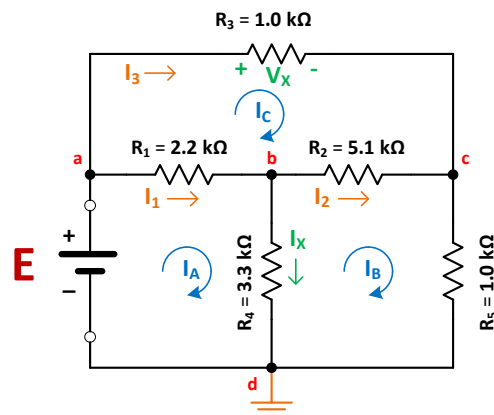

Figure 3.0b: Circuit for *Mesh* Analysis
- (ii) **Mesh Analysis:** Using the *mesh analysis* technique on the circuit shown in **Figure 3.0b**, calculate the mesh currents I_A , I_B and I_C ; and determine the branch currents, I_1 , I_2 , I_3 and I_X ; and the branch voltage, V_X . Record all your results in **Table 3.0**.